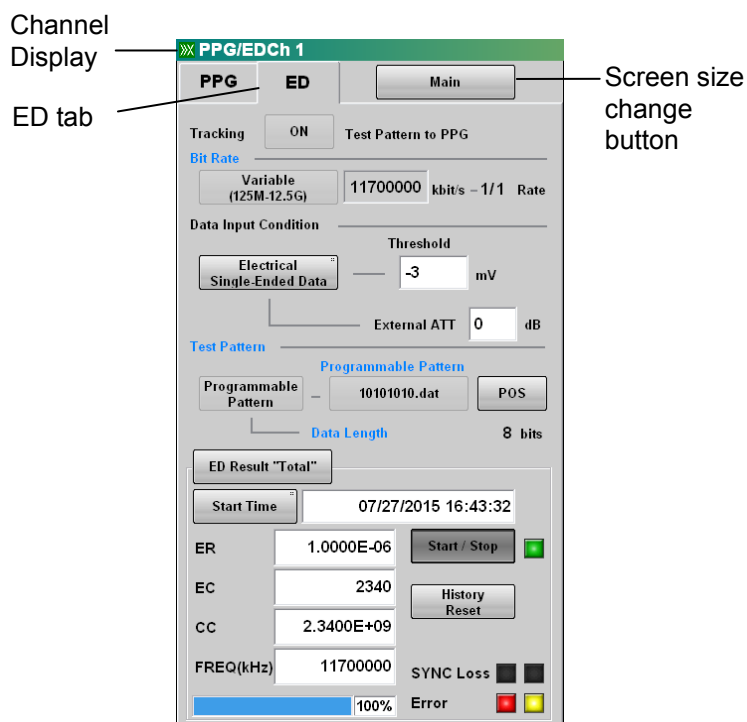

Figure 6.1-1 ED Setting Panel
2. Touch [ED] to display the screen as shown in Figure 6.1-1.
4. Touch [Expand] to change the screen as shown in Figure 6.1-1.